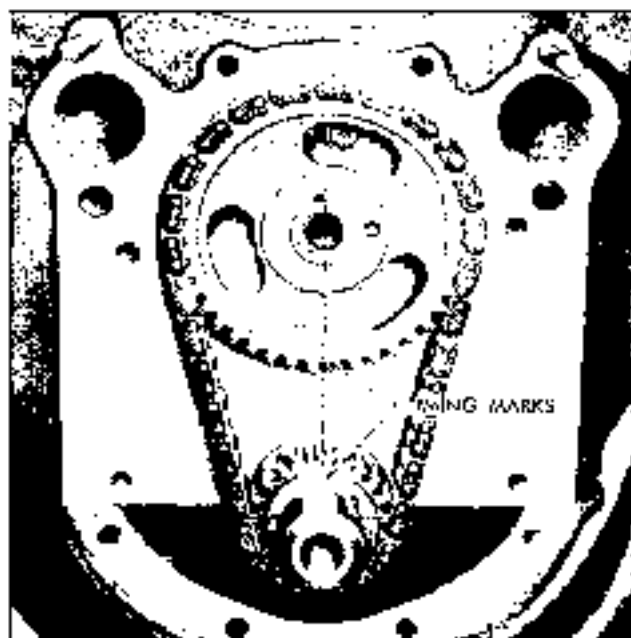

Fig. 6-96 Aligning Timing Marks
3. Align timing marks to simplify proper positioning of sprockets during reassembly (Fig. 6-96).
5. Install new timing chain and/or sprockets, making sure marks on timing sprockets are aligned exactly on a straight line passing through the shaft centers (Fig. 6-96). Camshaft should extend through sprocket so that hole in fuel pump eccentric will locate on shaft.
3. Install timing chain sprockets and timing chain, making sure marks on sprockets are aligned properly (Fig. 6-96).